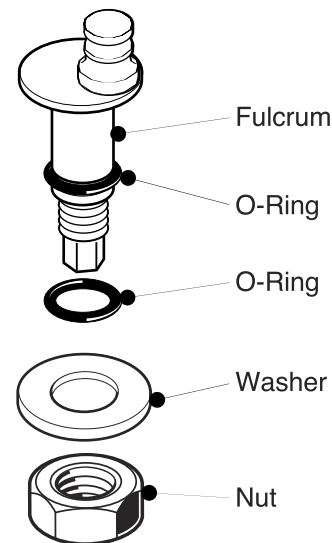

Fig. 41, Fulcrum
- Return the Upper Case to its service position (Flange side up) and remove the Fulcrum. (Fig. 41)
- Remove and discard (2) O-rings and replace with a fresh pair. (Fig. 41)